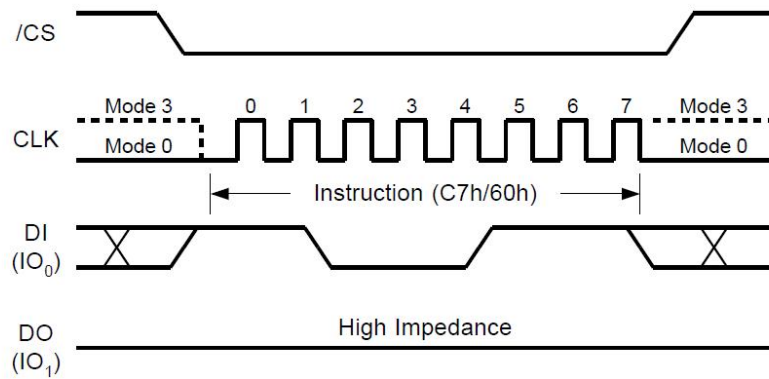

Figure19. Chip Erase Sequence Diagram
The Deep Power-Down Mode automatically stops at Power-Down, and the device always in the Standby Mode after Power- Up. The Deep Power-Down command sequence: CS# goes low → sending Deep Power-Down command → CS# goes high. The command sequence is shown in Figure19. CS# must be driven high after the eighth bit of the command code has been latched in; otherwise the Deep Power-Down (DP) command is not executed. As soon as CS# is driven high, it requires a delay of  $t_{DP}$  before the supply current is reduced to ICC2 and the Deep Power-Down Mode is entered. Any Deep Power- Down (DP) command, while an Erase, Program or Write cycle is in progress, is rejected without having any effects on the cycle that is in progress.